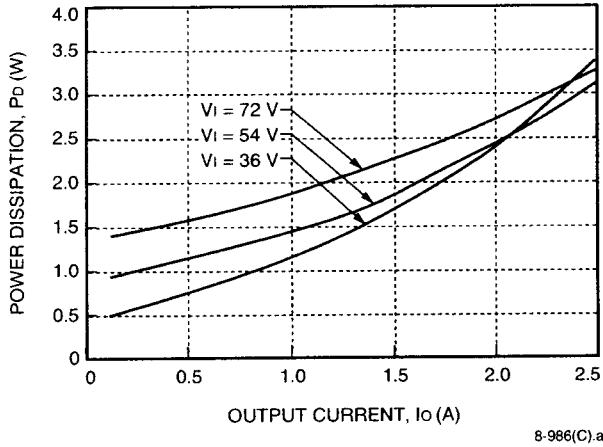
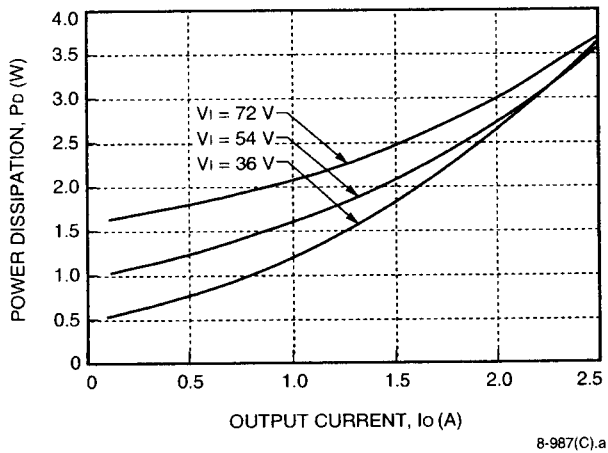
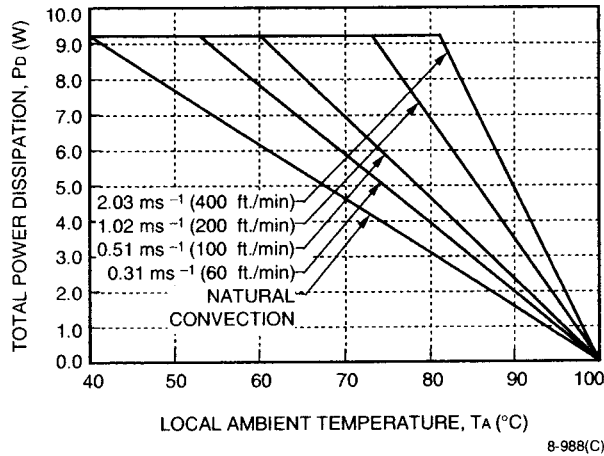

Figure 16. 3.3 V Output Power Dissipation vs. Output Current
Figure 17. 5 V Output Power Dissipation vs. Output Current
Figure 20. Total Power Dissipation vs. Local Ambient Temperature and Air Velocity
The DW025-Series Dual Output Power Modules have a separate power stage for each of the outputs. This means that the maximum operating temperature can be predicted quite closely by treating each output individually and then summing the results. Figures 16 through 21 are used to predict the safe operating condition for many different operating and environmental conditions.
1. Find the power dissipated for output 1 by using the appropriate chart (Figures 16 through 19) for a particular output condition (I_{O1}).
2. Repeat step 1 for output 2 using Figures 16 through 19.
4. Use the total power dissipated with Figure 20 to determine the maximum ambient temperature at different air velocities.
For example, the DW025AF-M power module operating at full load on both outputs with 54 V input has a power dissipation of 3.6 W (from Figure 17) plus 3.1 W (from Figure 16) for a total of 6.7 W. Using Figure 20, it can be determined that the maximum ambient temperature at natural convection that the DW025AF-M can operate at is approximately 56 °C.